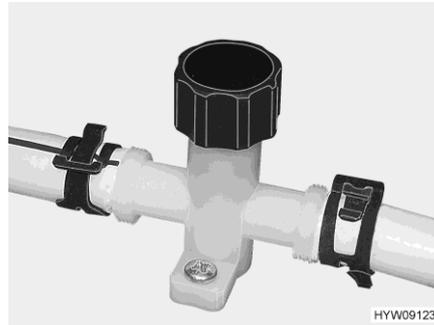
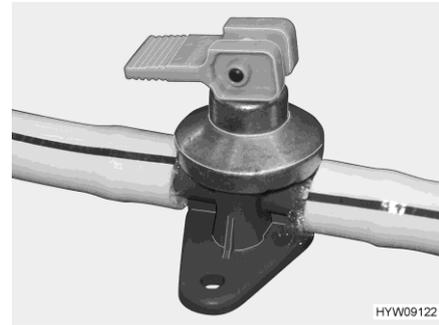

Fig. 121 Drain cock (water pipe)
Fig. 122 Drain cock (Alde boiler)
- Close the drain cocks. To do so, turn the cap (Fig. 121) in a clockwise direction and set the rocking lever (Fig. 122) in a horizontal position.
- Open the drain cocks. To do so, turn the cap (Fig. 121) in an anticlockwise direction and set the rocking lever (Fig. 122) in a vertical position.